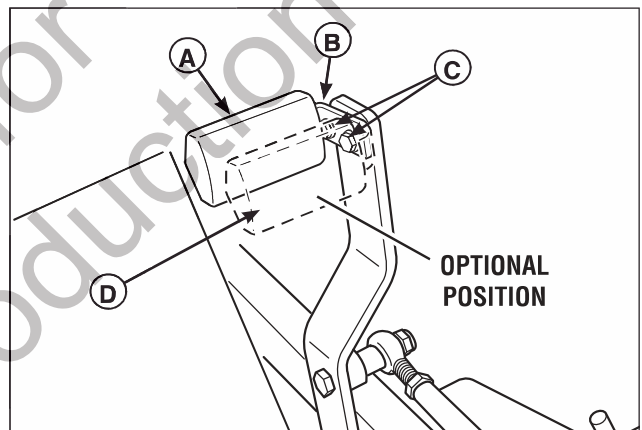

Figure 45. Foot Pedal Adjustment
1. Remove the foot pedal (A, Figure 45) from the pedal mount tab (B).
2. Remove the pedal mount hardware (C) and rotate the tab 180 degrees.
4. Reinstall the foot pedal on the pedal mount tab in the proper orientation as shown in Figure 45.